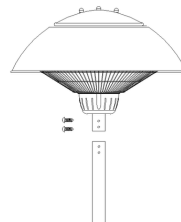

Fig. 4
6. Slide the radiator head onto the top tube and secure it in place with 2 4x10 mm screws (figure 4).